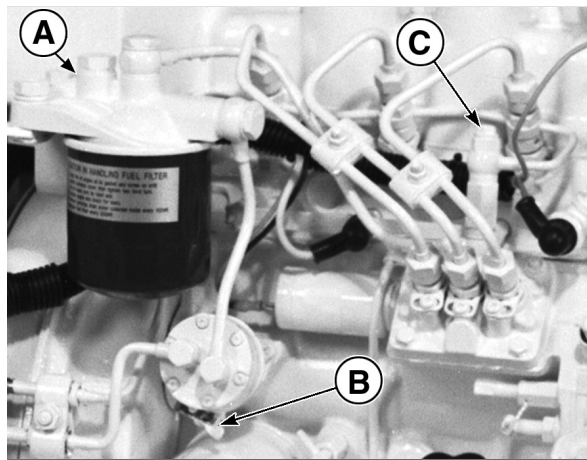

Figure 7: 673 Fuel System.
2. Loosen bleed screw "A" (Figure 7) on top of the filter. Pump hand primer "B" on fuel lift pump until pure fuel (no bubbles) escapes from bleed screw "A". Tighten bleed screw "A".